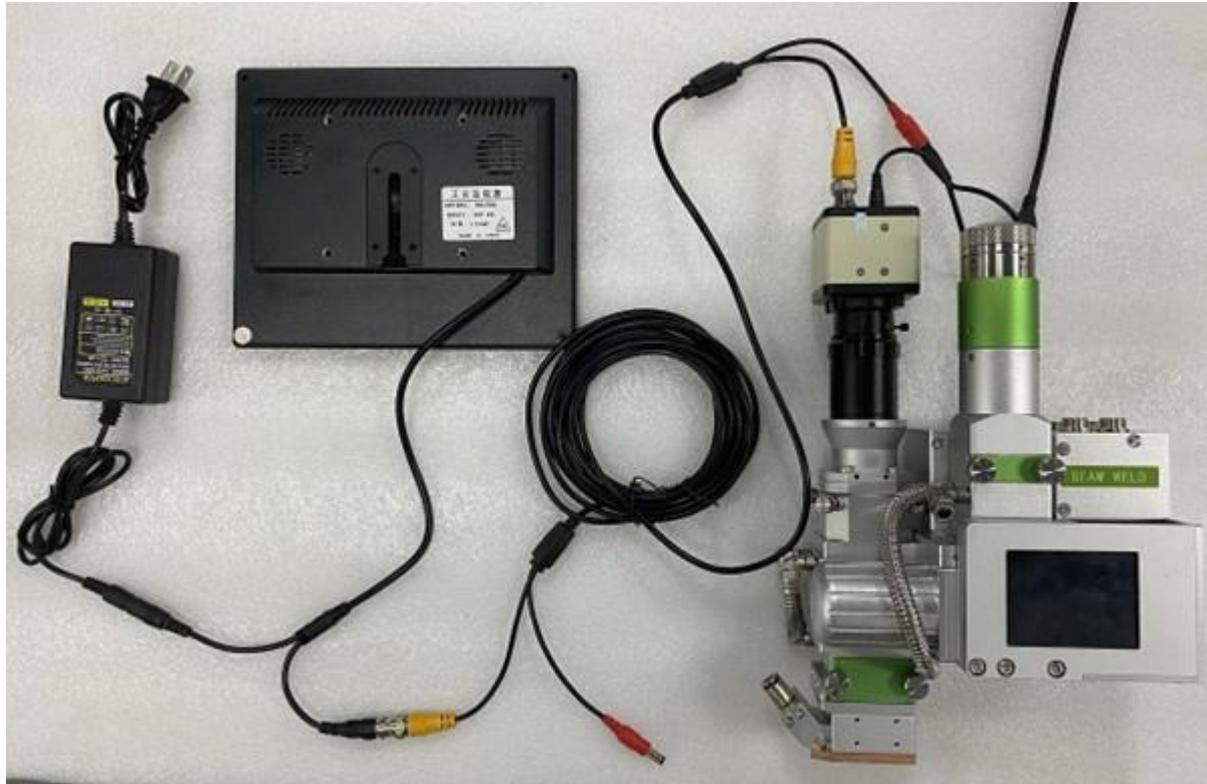

Figure 2.14
2. The complete wiring of the swing laser welding head monitoring system is shown in Figure 2.14